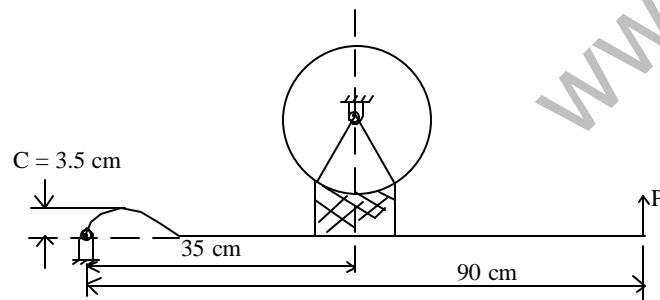

Fig. 12.1
- (b) Ref. Fig. 12.1. A 70 cm brake drum has a contact angle 40° . It sustains 200 N-m of torque at 50 rpm. For coefficient of friction 0.3, determine :